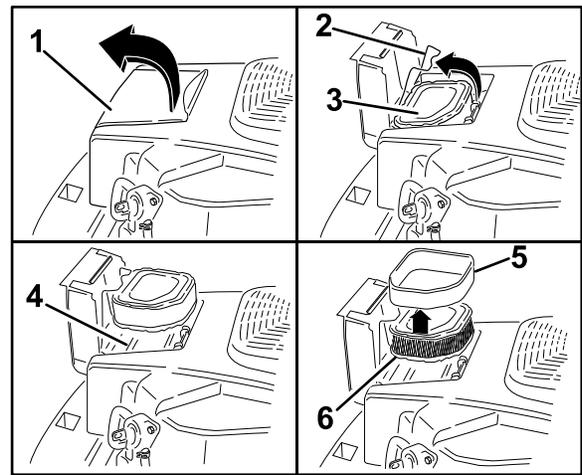

Figure 34
1. Open the air cleaner cover door on the blower housing to access the air cleaner element (Figure 34).
2. Unhook the latch and remove the air cleaner (Figure 34).
2. Unhook the latch and remove the air cleaner(Figure 34).